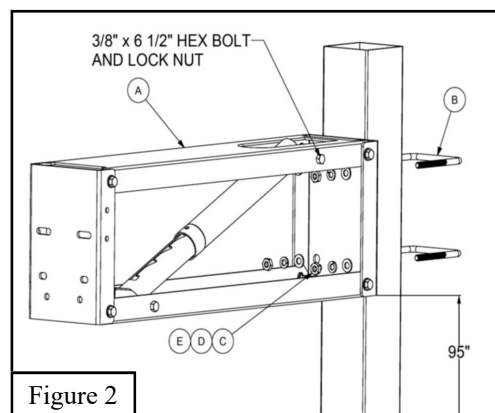
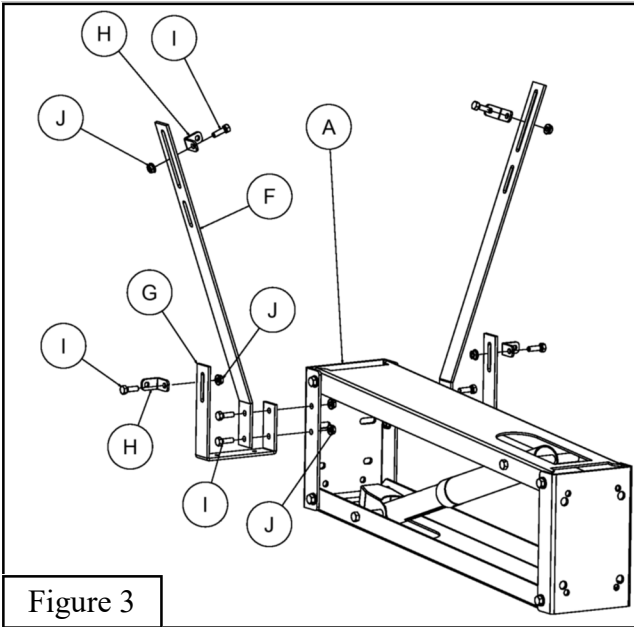
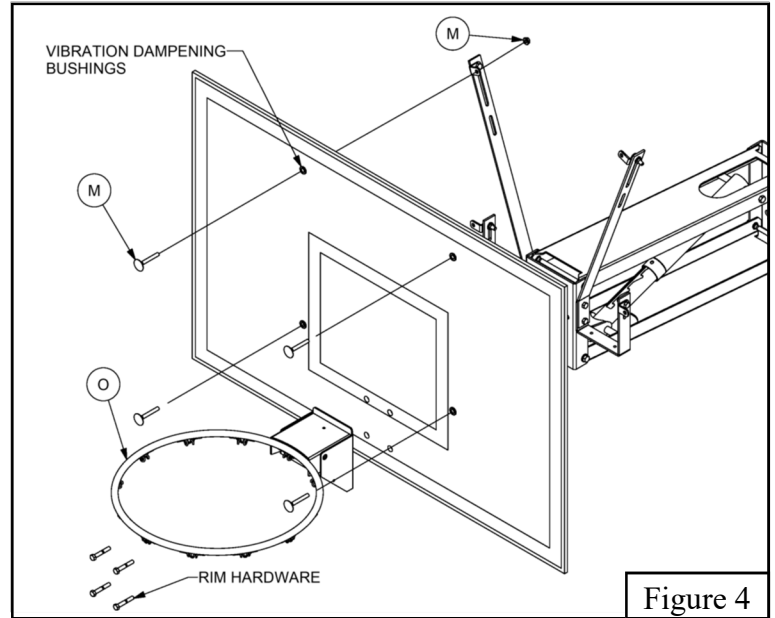

Figure 2
Figure 3
Figure 4
**Extension Arm Assembly (A) comes preassembled. Remove from box with the cable tie intact. Lay assembly on a flat surface then cut cable tie. Use caution as you handle the assembly to avoid finger entrapment during installation.**
**Placement of Qwik-Change below the 95" shown in Figure 2 is not advisable as it seriously increases the chance of injury to young players.**
19. Using a marker or masking tape, mark the pole assembly 95" above the actual playing surface. Placement of the *Extension Arm Assembly (A)* below 95" is not advisable as it increases the chance of injury to young players. See Figure 2.
20. Remove the 3/8" hex lock nut and 3/8" x 6 1/2" Hex Bolt from the upper channel of the *Extension Arm Assembly (A)* and attach the upper end of the rim height adjustment mechanism to the *Extension Arm Assembly (A)*. See Figure 2.
21. Using two 4" *Square U-Bolts (B)*, four 1/2" *Flat Washers (C)*, four 1/2" *Lock Washers (D)*, and four 1/2" *Hex Nuts (E)* mount the *Extension Arm Assembly (A)* loosely to the front of the pole assembly at eye level or higher from a ladder or bed of a pickup. See Figure 2.
22. Carefully maneuver the *Extension Arm Assembly (A)* up the pole assembly to a height where the bottom of the pole plate on the front of the *Extension Arm Assembly (A)* is in line with the 95" height marking on the pole assembly. See Figure 2.
23. Tighten the four 1/2" *Hex Nuts (E)* on the 4" *Square U-Bolts (B)* making sure that the 4" *Square U-Bolts (B)* are parallel to the ground and that the *Extension Arm Assembly (A)* is square on the pole assembly.
24. Mount the *Upper Backboard Supports (F)* and *Lower Backboard Supports (G)* to the holes on the sides of the mounting plate on the *Extension Arm Assembly (A)* furthest from the 4" *Square Pole (P)* using 5/16" x 1" *Hex Bolts (I)* and 5/16" *Flange Nuts (J)*. See Figure 3.
25. Loosely attach the *Backboard Mounting Angles (H)* to the ends of the *Upper and Lower Backboard Supports (F) & (G)* using 5/16" x 1" *Hex Bolts (I)* and 5/16" *Flange Nuts (J)*. Do not tighten at this time. See Figure 3.
26. Assemble the *Rim (N)* using the instructions provided with the *Rim (N)*.
27. Mount the *Acrylic Backboard (L)* and *Rim (N)* to the front of the *Extension Arm Assembly (A)* using the rim mounting hardware packaged with the *Rim (N)*. Bolts should pass through the *Rim (N)*, then the *Acrylic Backboard (L)* and then the front mounting plate on the *Extension Arm Assembly (A)*. Tighten when the *Rim (N)* and the *Acrylic Backboard (L)* are level. See Figure 4.
28. Attach the previously assembled *Backboard Mounting Angles* (H) to the *Acrylic Backboard* (L) with the *Acrylic Hardware* (M) provided with the *Acrylic Backboard* (L). See Figure 4 to insure that the hardware is properly installed to isolate all steel components from the acrylic by the vibration dampening bushings. Tighten when all components are level and flat.